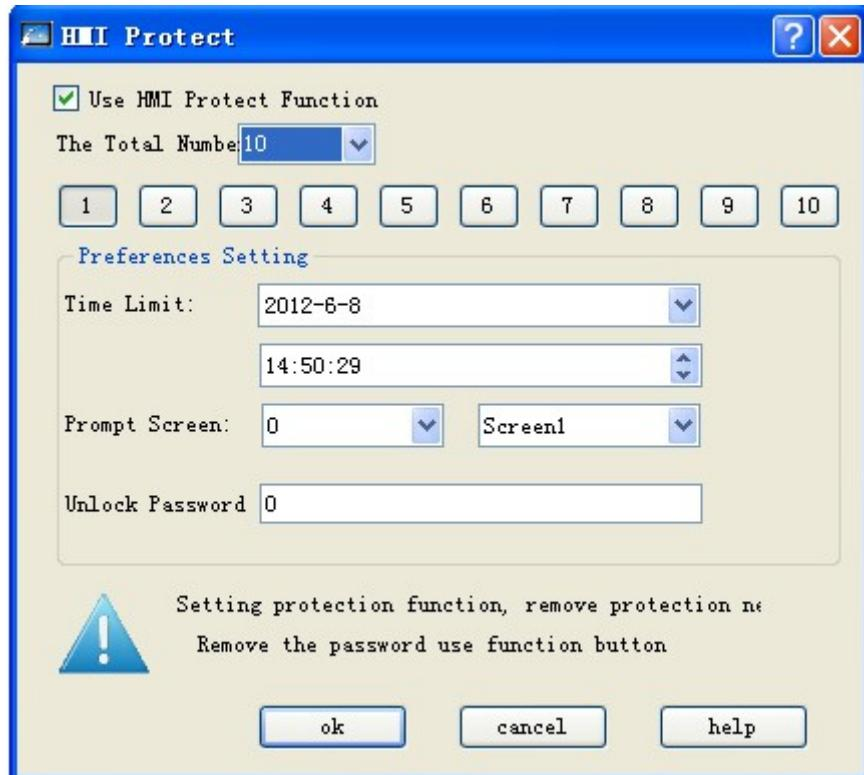

Figure 7-12 Dialog box of HMI protect
- ◆ Double click the option “HMI Protect” in " Project Manager " to pop up the dialog box as shown in figure 7-12.